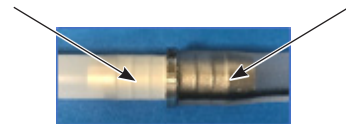

Figure 9 Fitting Adapter Installation
3. See Figure 9. Install tubing onto the fitting adapter.